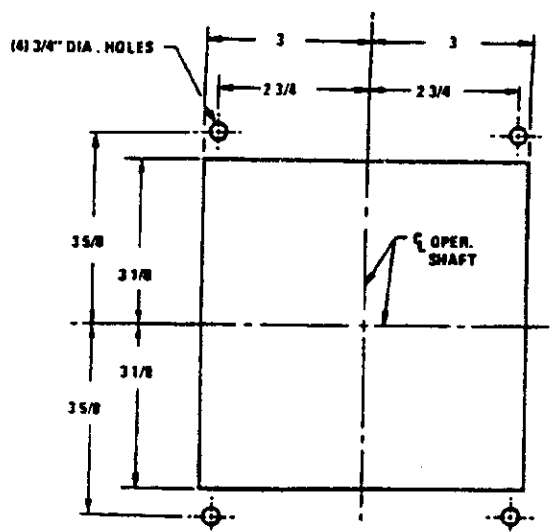

Fig. 16
- b. If it has not already been done, cut opening and drill or punch four 3/4" diameter holes in right side of enclosure per pattern shown in Fig. 16. (This same information appears on direct drive handle Dwg. S-20148).
- g. From rear end of switch, slip insulating sleeve (shown in Fig. 16) over the bus bar and into the recessed area of switch base until roll pin hole of bus bar is in full view at the end of the insulating sleeve. If necessary to loosen bolts of jaw or hinge to allow clearance for this sleeve to completely enter the recessed area, make sure switch is in closed position.